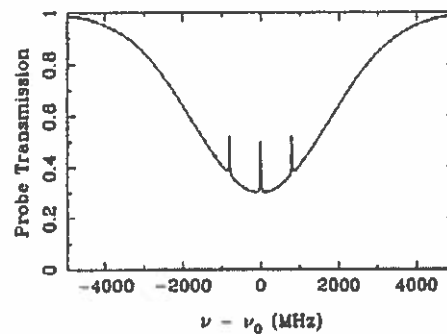

Figure 3. Saturated absorption spectrum for atoms with a single ground state and two closely spaced excited states.
**Qualitative Picture of Saturated Absorption Spectroscopy – Multi-level Atoms.** If the atoms in the absorption cell had a single ground state and two excited states (typically an electronic level split by the hyperfine interaction), and the separation of the excited states was less than the Doppler width, then one would see a spectrum like that shown in Figure 3. The peaks on the left and right are ordinary saturated absorption peaks at  $\nu_1$  and  $\nu_2$ , the two resonance frequencies. The middle peak at  $(\nu_1 + \nu_2)/2$  is called a "cross-over resonance." If you think about it for a while you can see where the extra peak comes from. It arises from atoms moving at velocities such that the pump is in resonance with one transition, and the probe is in resonance with the other transition. If you think about it a bit more you will see there are *two* velocity classes of atoms for which this is true – atoms moving toward the pump laser, and away from it.